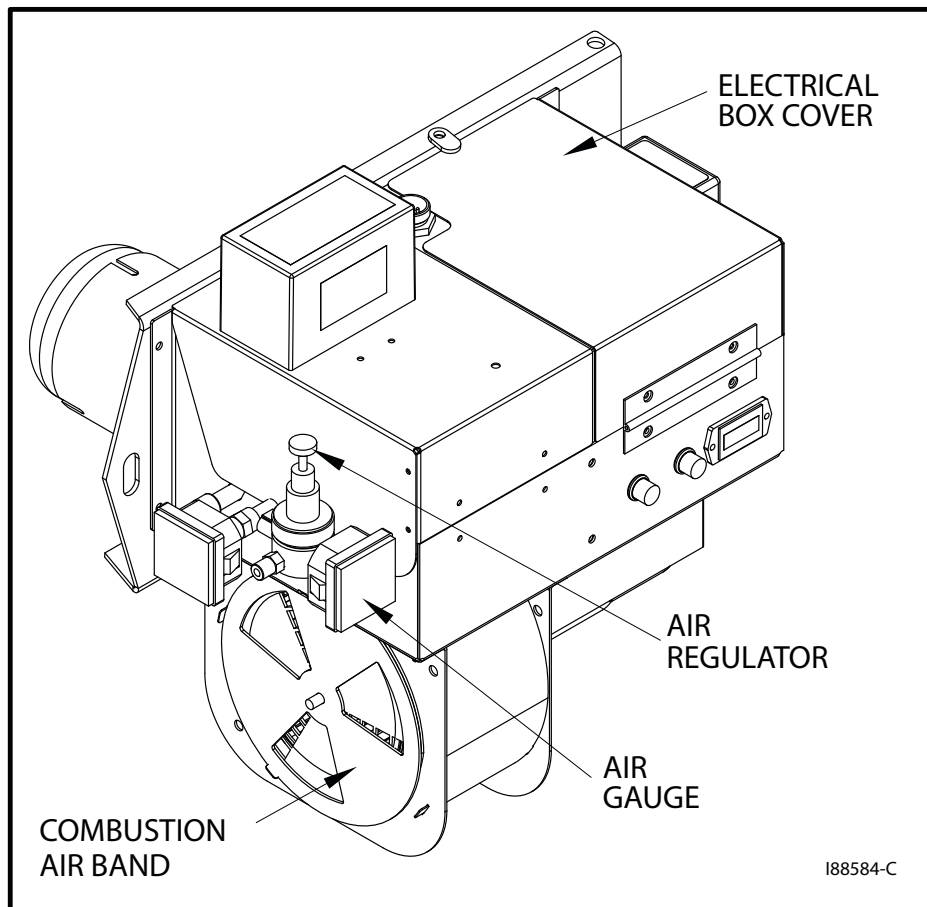

Figure 3H - Component Detail of the Saturn Burner
1. Figure 3H shows an exterior view of the Saturn burner components. In this procedure, you will be removing the internal air regulator components to prepare the Saturn burner for use with the air compressor assembly #14336.